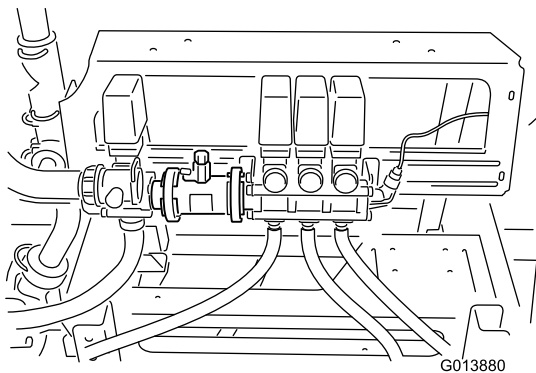

Figure 7
- F. Carefully move the boom-valve-assembly into the position flush with the flowmeter body (Figure 7).